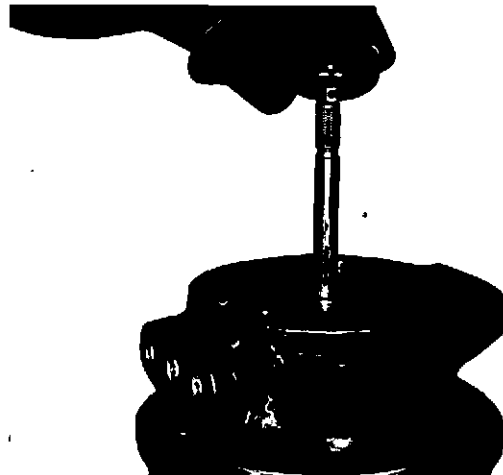

Fig. 5-29, (TA31). Installing the thrust collar
7. Install a new thrust collar over the shaft and tight against the thrust washer, Fig. 5-29.